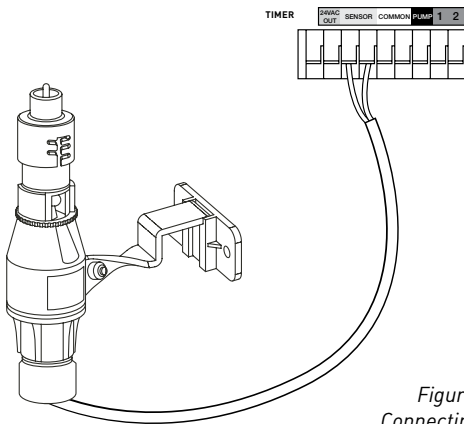

Figure 6:
- Place the sensor on/off switch to the “on” position to begin operation (see figure 6)